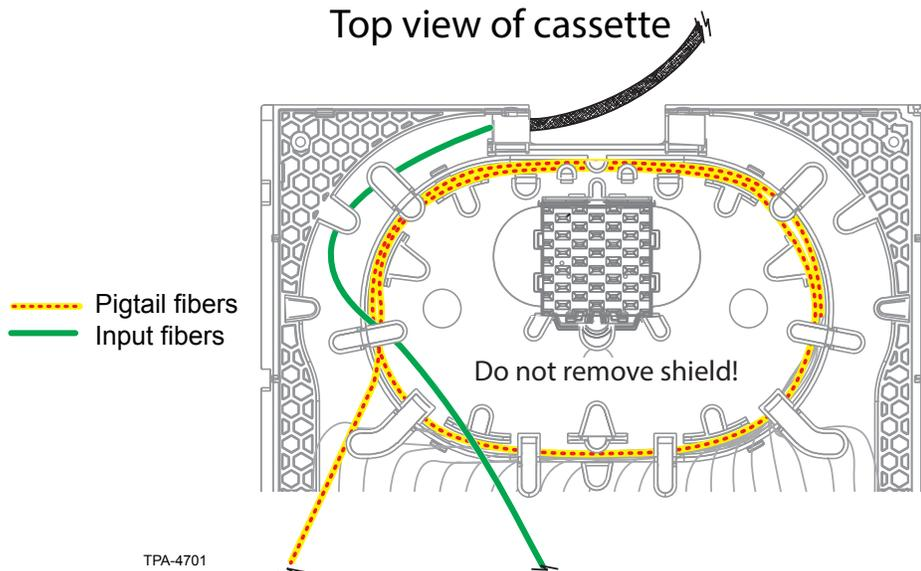

Figure 22
**Step 6:** Uncoil two loops of pigtail ribbon or fibers from inside the cassette (Figure 22). Do NOT lift the plastic shield or remove fibers from beneath it.